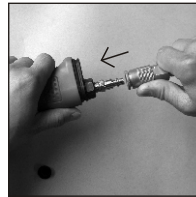

Figure 7
6. Connect air supply hose to the tool. Set the air pressure at 90 PSI. (See Figure 7)